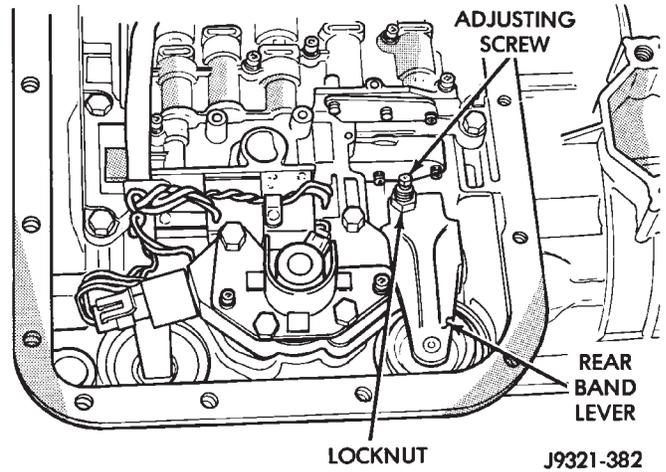

Fig. 279 Rear Band Adjusting Screw Location
- (1) Raise vehicle.
- (2) Remove transmission oil pan and drain fluid.
- (3) Loosen band adjusting screw locknut 5-6 turns (Fig. 279). Be sure adjusting screw turns freely in lever.
- (4) Tighten adjusting screw to 8 N·m (72 in. lbs.) torque.